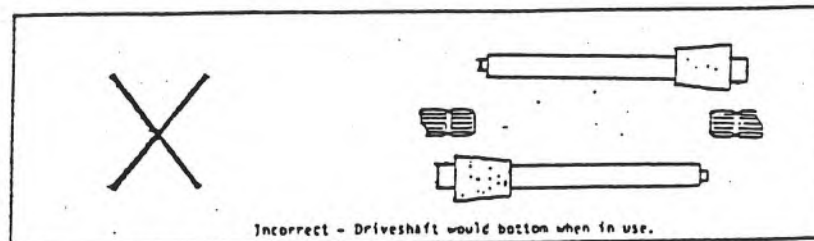
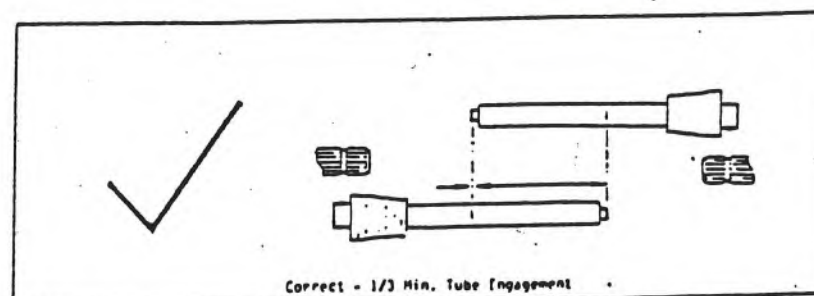

Fig. 1 Incorrect Engagement
Fig. 3 Correct Engagement
- (a) The P.T.O. Shaft length may be altered to suit individual tractor models. During operation the P.T.O. shaft should have $1/3$ engagement as shown in Fig. 3. Incorrect and dangerous engagements are shown in Figs. 1 and 2. These should not be used.